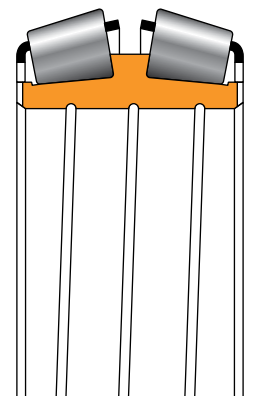

Fig. 69. Spiral groove in bearing bore.
1. Spiral bore grooves in double cone bore (TQOGW): Spiral grooves in the cone bores (fig. 69) help to retain and distribute lubricant to the roll neck. However, Timken suggests that the contact pressure between the roll neck and cone bore be less than 15 MPa (2175 psi) to minimize the risk of premature neck scuffing.